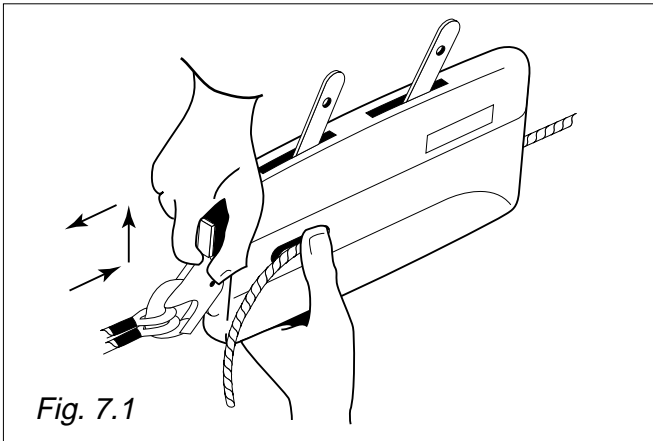

Fig. 7.1
Releasing : Release the rope release catch by pushing it against the machine lightly and upwards. Then pull the catch outwards. (Fig. 7.1).
- release the mechanism by pushing the rope release catch towards the machine and upwards (Fig. 7.1).